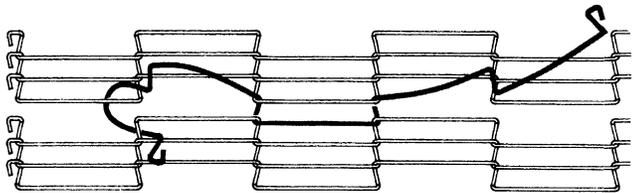

Figure 90: Hook the Splicing Link to the Other Chain
- Using a pair of needle nose pliers, grasp one (1) end of the splicing link and insert the loop end over the belt link being spliced. Refer to Figure 90.